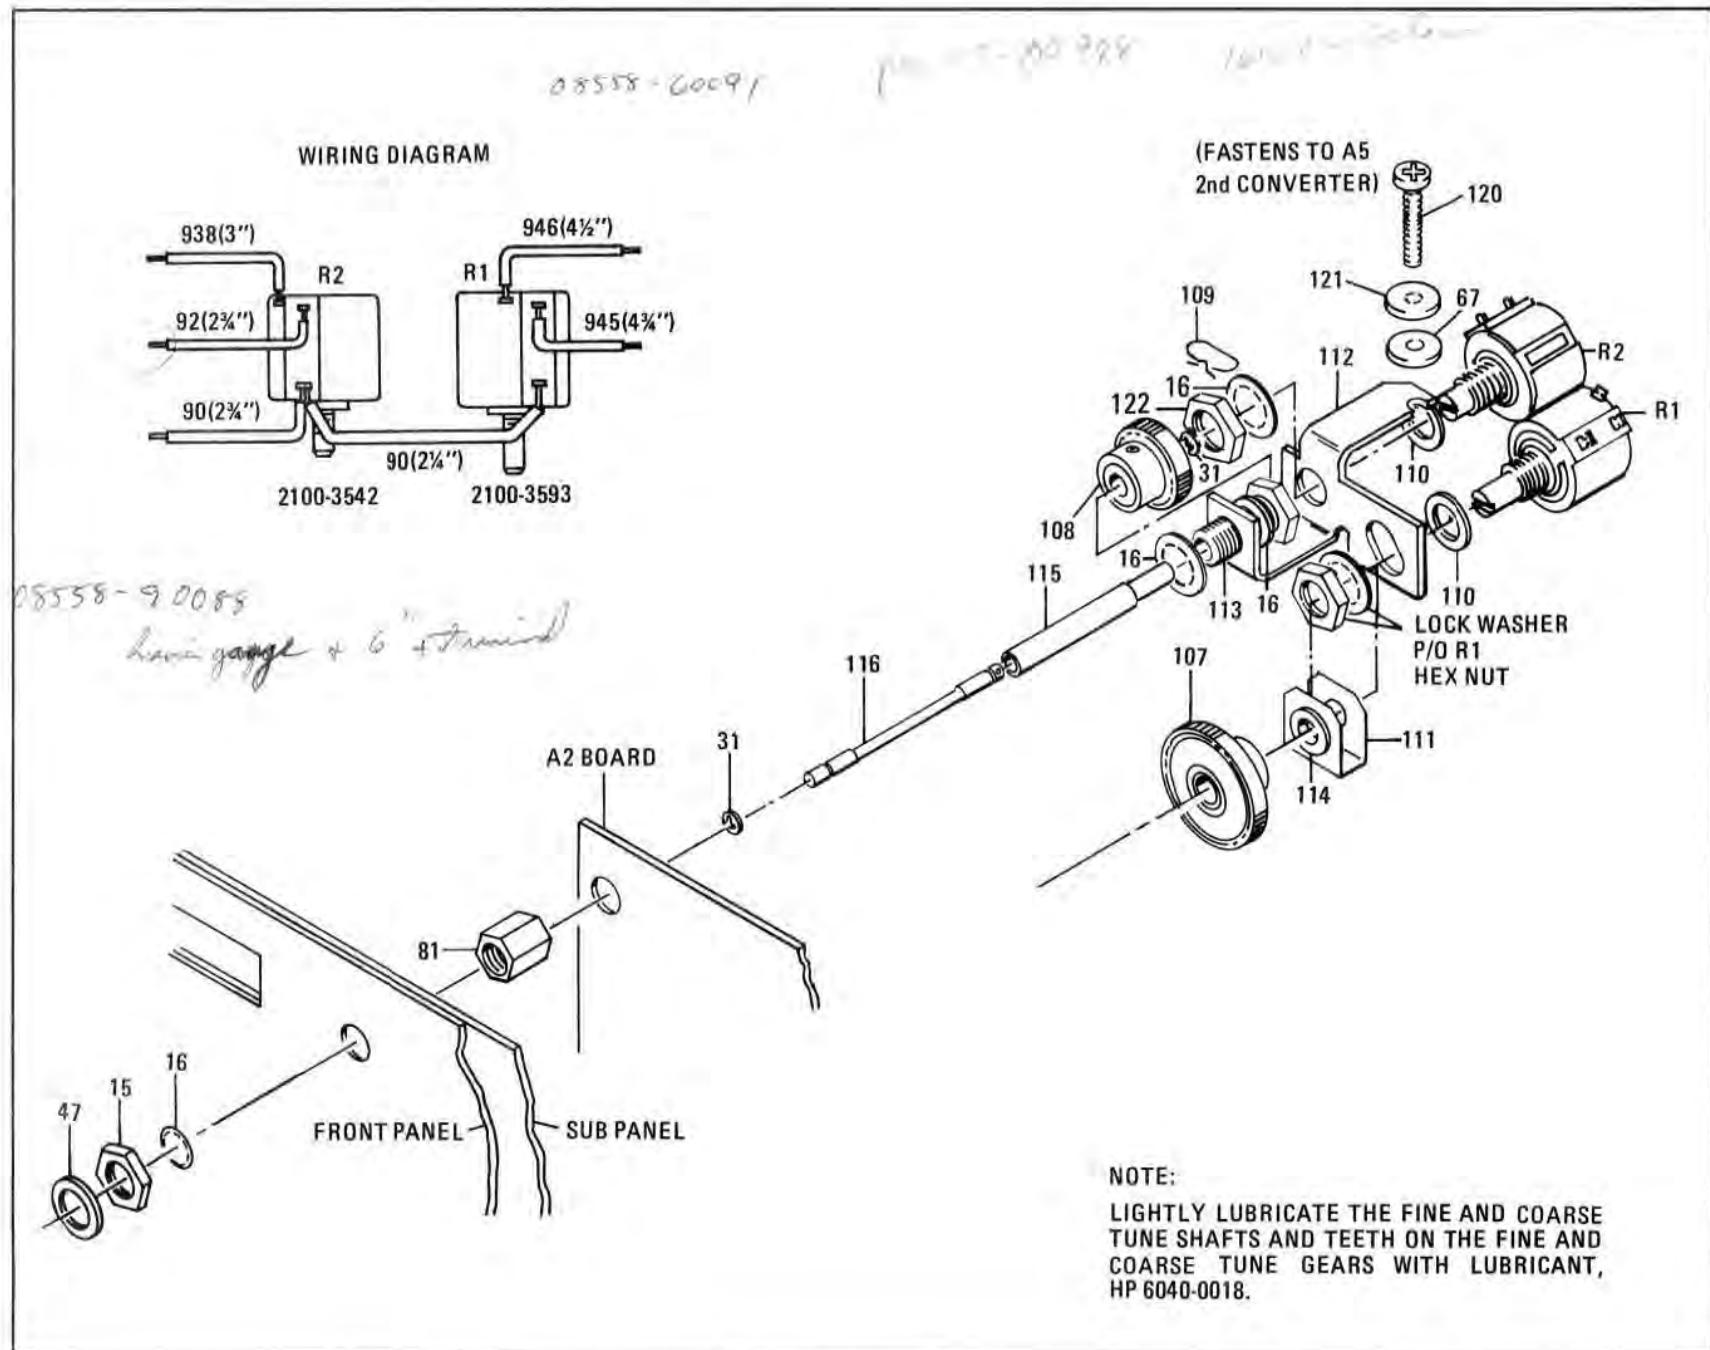

Figure 1. Two Pot Gear Drive Tuning Assembly
Refer to Figures 6-3 and 7-5 (change D) Front Panel Assembly, Pages 6-29 and 7-7, in 8558B Operating and Service Manual, HP 08558-90043, dated October 1977 and Figure 1. Two Pot Gear Drive Tuning Assembly of this Service Note.
14. Refer to Figure 1. Two Pot Gear Drive Tuning Assembly for parts breakdown of tuning assembly, place lock washer (16) on coarse tune shaft bushing (113) and place coarse tune shaft bushing (113) through proper hole in dual pot bracket (112).
15. Place lock washer (16) over coarse tune shaft bushing (113) on front side of dual pot bracket (112).
16. Place long hex nut (81), removed in step 13, on coarse tune bushing (113) and tighten with fingers only.
17. Lightly lubricate fine tune shaft (116) and coarse tune shaft (115) with suggested lubricant (HP Part Number 6040-0018) or a light grease.
18. Place retaining clip (31) in groove on fine tune shaft (116) near end without hole. Insert fine tune shaft (116) into coarse tune shaft (115) from larger diameter end of coarse tune shaft (115).
19. Insert dual shaft assembly (115/116) through threaded end of coarse tune shaft bushing (113).
20. Place 40-tooth spur gear (108) over end of coarse tune shaft (115). With 40-tooth spur gear (108) held as far as it will go on coarse tune shaft (115), tighten set screw in gear with number 4 (.050 inch) Allen driver.
21. Place retaining clip (31) in groove on fine tune shaft (116) near end of shaft with small hole.
22. Insert straight end of universal coupler spring (109) in small hole near end of fine tune shaft (116) and snap universal coupler spring (109) into place.
23. Place flat washer (110) over shaft of fine tune pot R2 (short shaft). Make sure flat washer (110) is seated tightly over collar near body of fine tune pot.
24. Insert fine tune pot R2 through round hole in rear side of dual pot bracket (112) and place lock washer (16) and 1/2 inch OD hex nut (122) over shaft of fine tune pot.